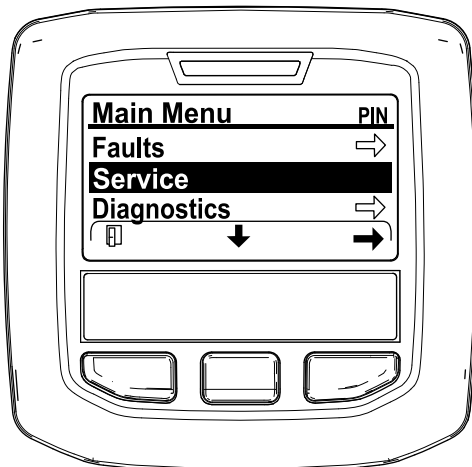

Figure 47
2. Navigate to the MAIN MENU, press the center button to scroll down to the SERVICE MENU, and press the right button to select the SERVICE option (Figure 47).